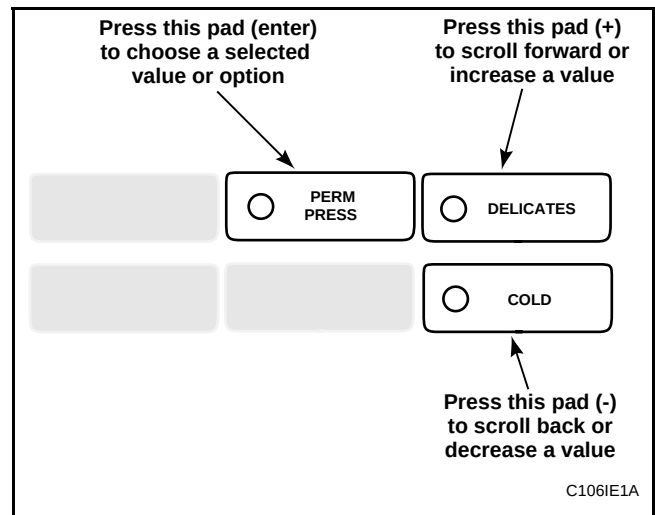

Figure 12
5. Press the DELICATES (+) or the COLD (–) keypad to increase or decrease the current number of coins displayed in the VFD to the desired number of coins. See **Figure 12**.